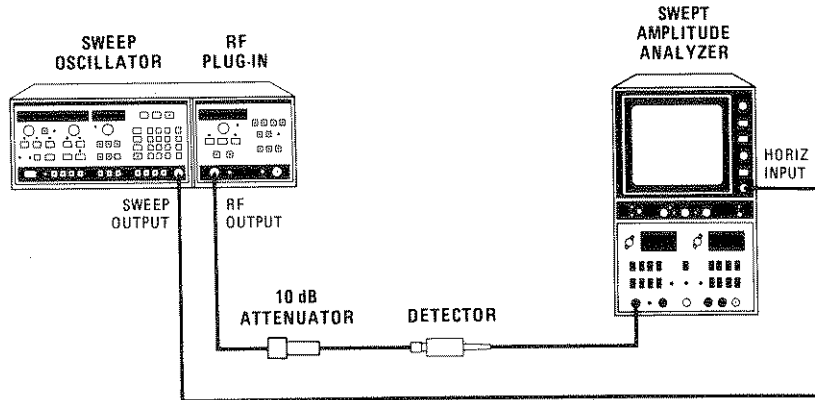
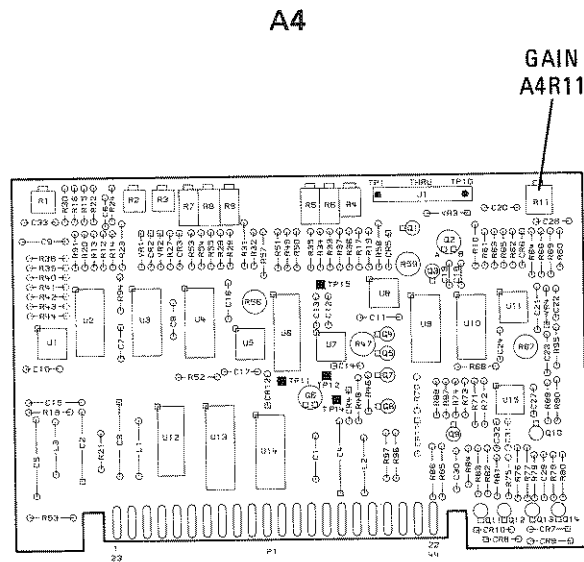
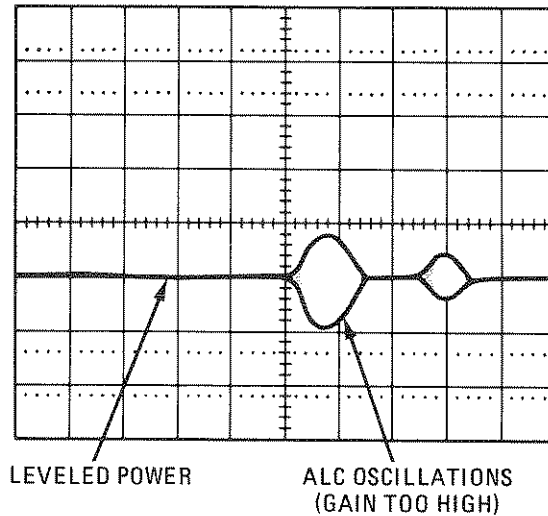

Figure 5-27. ALC Gain Adjustment Test Setup
Figure 5-28. ALC Gain Adjustment Location
Figure 5-29. Leveled Power Trace Showing ALC Oscillations
1. Connect equipment as shown in Figure 5-27. Select 8350A \square MOD. Sweep the full range of the plug-in at minimum leveled power. Observe the RF signal on the 8755C display. Adjust A4R11 (GAIN) (Figure 5-28) to increase the gain of the Main ALC amplifier until oscillations begin to occur. (See Figure 5-29.) Then, reduce gain just enough to eliminate oscillations.